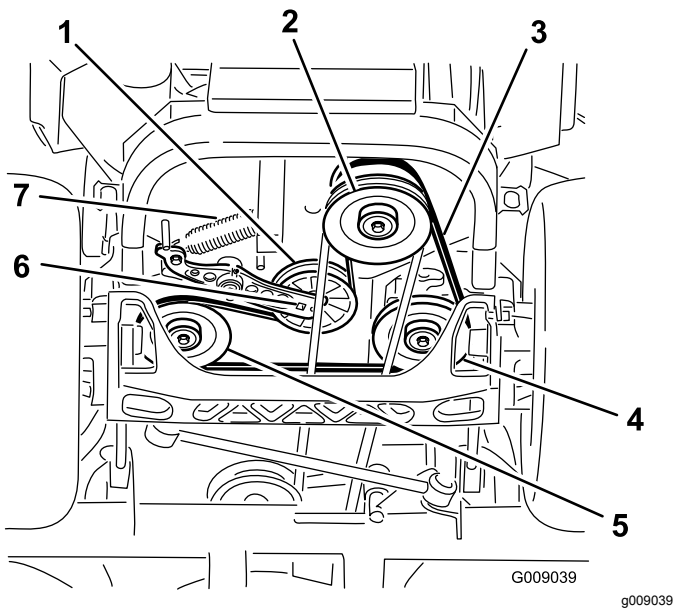

Figure 93
4. Raise the machine and support it with jack stands (Figure 93).
5. Use a ratchet in the square hole in the idler arm to remove the idler spring (Figure 93).
6. Unhook the idler spring from the frame (Figure 93).
9. Using a ratchet in the square hole in the idler arm, install the idler spring to the frame (Figure 93).